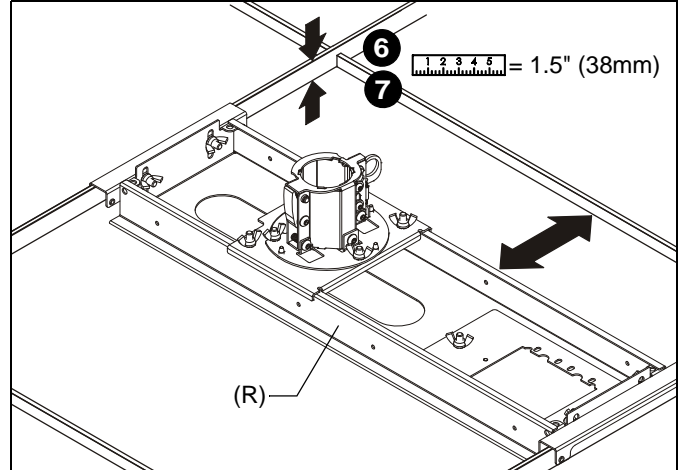

Figure 8
4. **Installing on Top of Existing Ceiling Tile only:** Press center tip of ceiling tile cutter (BB) into *finished* side of ceiling tile at marked location. Cut extension column hole through tile using back and forth motion.
6. **Installing on Top of Existing Ceiling Tile only:** Install suspended ceiling plate assembly (R) on top of ceiling tile so that end brackets engage primary (1-1/2" (38mm) high) rails of ceiling framework. (See Figure 8)
7. **Flush with Suspended Ceiling only:** Install suspended ceiling plate assembly (R) on top of ceiling framework rails so that end brackets engage primary (1-1/2" (38mm) high) rails of ceiling framework. (See Figure 8)